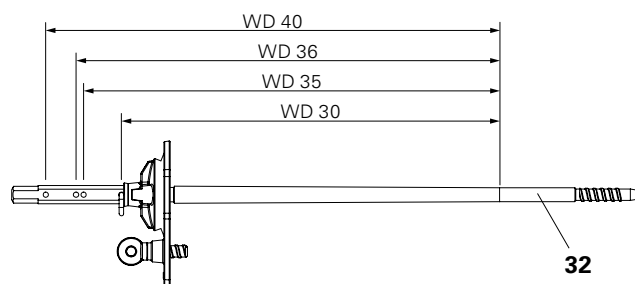

Fig. A5.03
Ties for wall thicknesses of 30, 35, 36 and 40 cm (32). (Fig. A5.03)